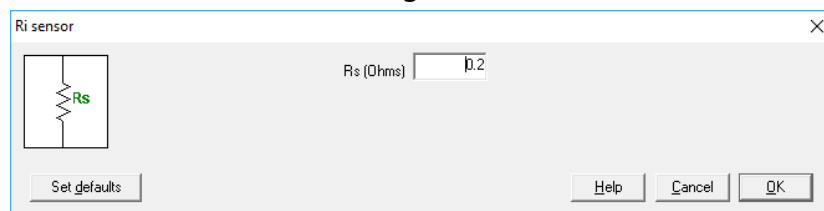

Figure 6: Current sensor definition
3. Define the current sensor as shown in Figure 6.